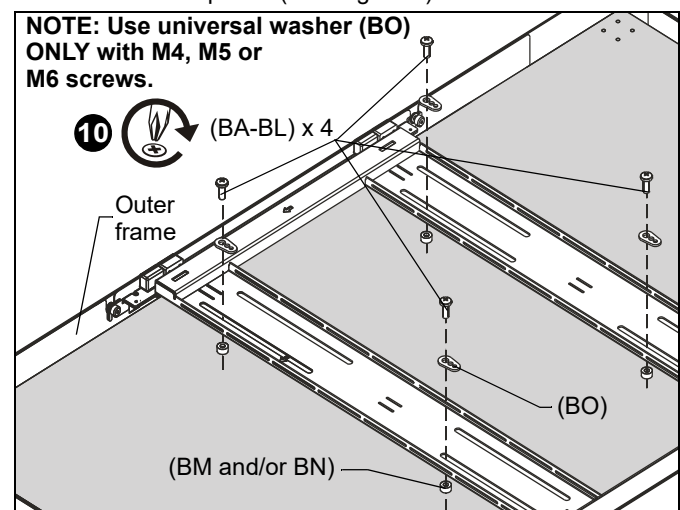

Figure 9
9. Place hinged frame onto back of flat panel and match the VESA pattern on flat panel to the hinged frame mounting slots. Also match the threaded studs in outer frame to the hooks on the hinged frame. (See Figure 9)
10. Use selected screws (BA-BL), washers (BO--if required), and spacers (BM, BN--if required), to connect hinged frame to back of flat panel. (See Figure 9)